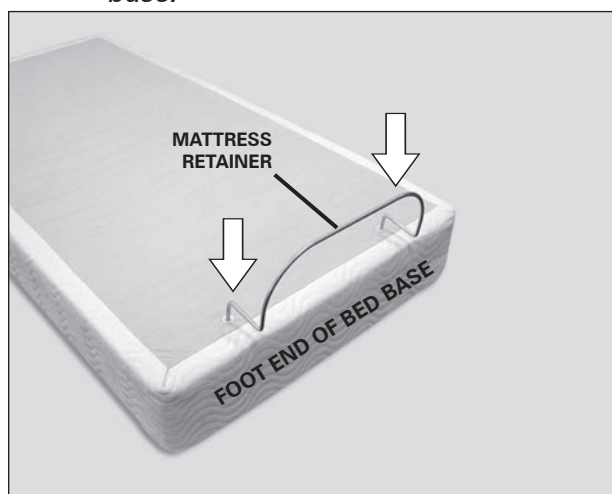

FIGURE 13: Mattress retainer installation.
- b. Place mattress retainer ends into grommets holes in top surface of adjustable bed base (**FIGURES 13 and 14**). Press down until horizontal retainer section is flush against bed base.